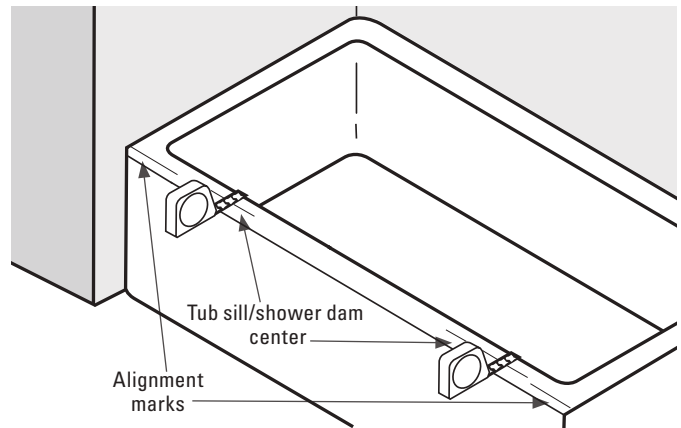

Figure 2
B. Using the tape measure, find the center of the tub sill/shower dam (See **Figure 2**). Make a mark where the center is, and add 1" to this mark. Place a new mark on the front of tub sill/shower dam on both the right and left sides.
E. Locate the Panel Glide Strip (See **Figure 2**). Using the wire cutters, cut it 3/4" shorter than the Curb.
F. Cut two pieces of painter's tape 12" long. Next, use the caulking gun and apply a thick bead of silicone sealant (approximately 3/8" in diameter) to the bottom surface of the Curb as indicated in **Figure 2**. Position the Curb on the tub sill/shower dam. Use the two strips of painter's tape to temporarily secure the Curb in place. DO NOT place the tape within 2" of the wall.